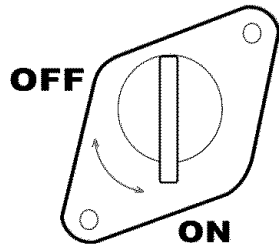

Figure 7- Fuel valve positions
4. Turn the fuel valve to the “on” position (see figure 7).